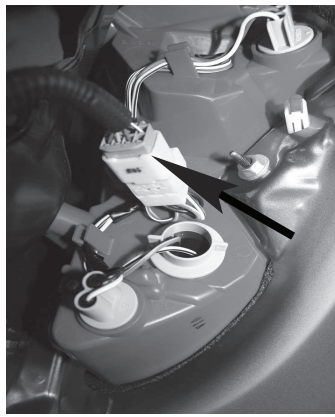

Figure 3
4. Carefully pull side panels back to reveal tail light connectors shown in **Figure 3**. The connectors will be similar to those on RV harness. Carefully separate the vehicle connectors, taking care not to damage the locking tabs. Inspect connectors for dirt and debris and clean if necessary.